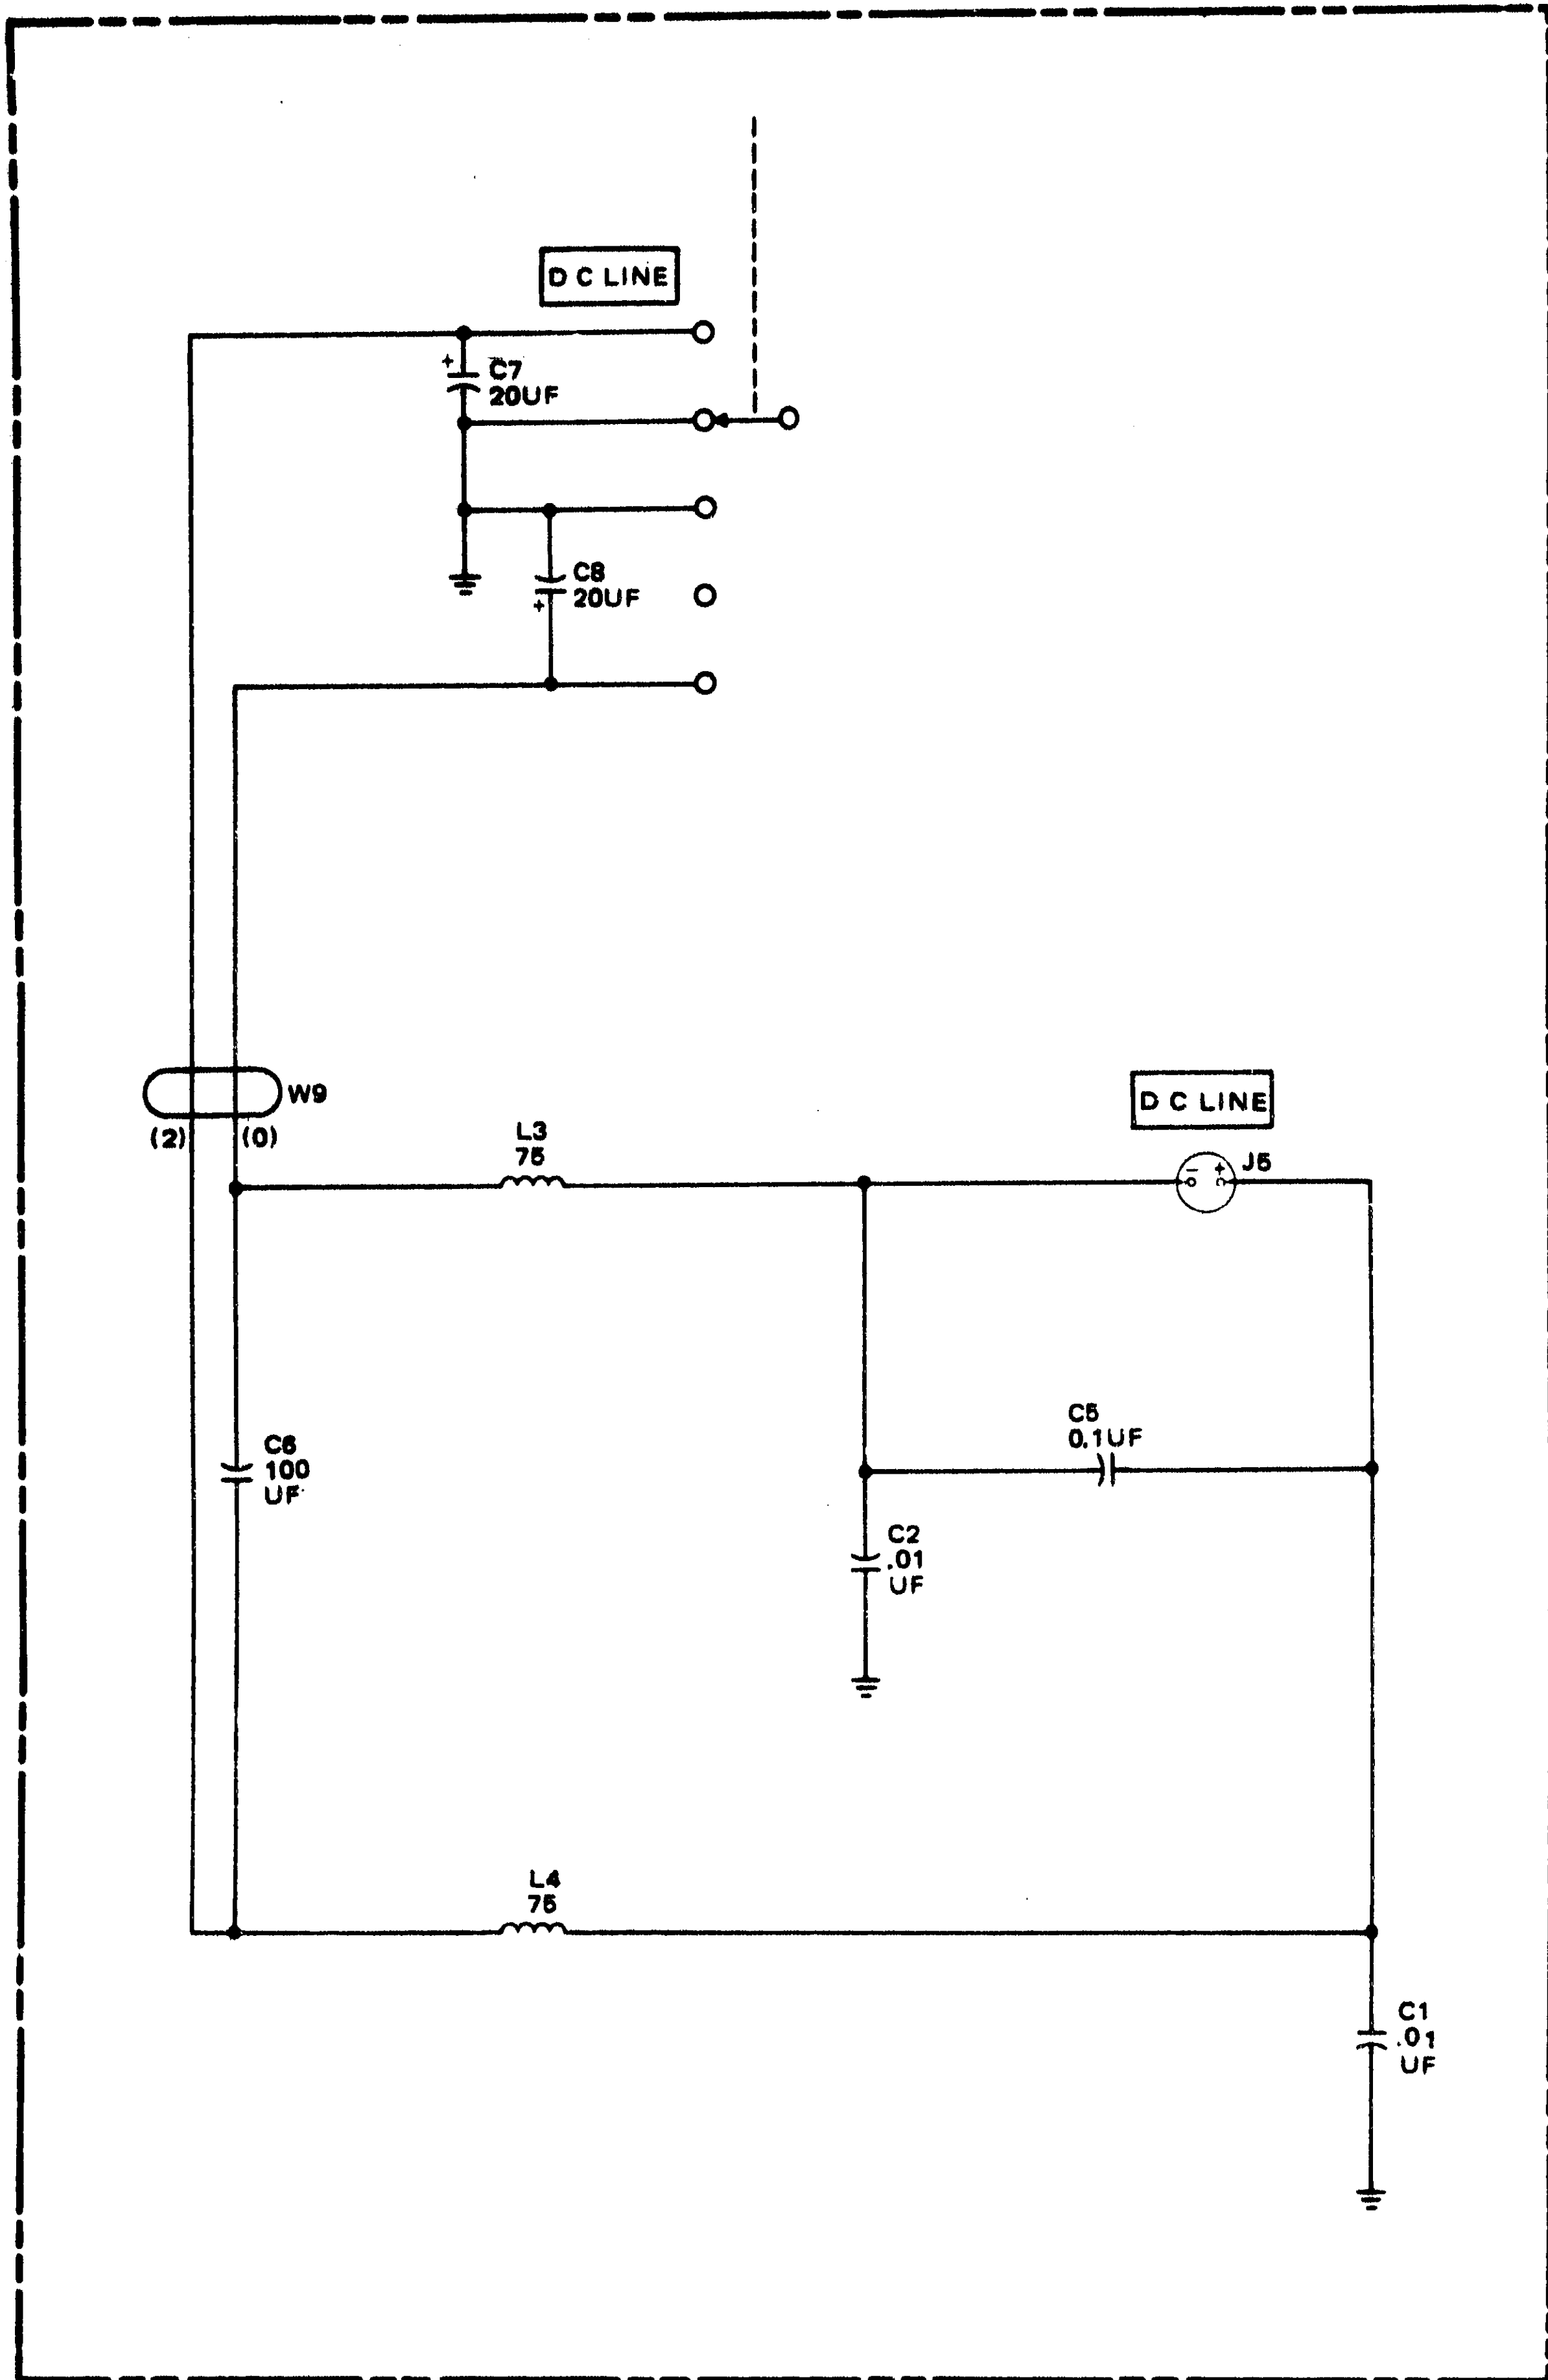

Figure 1. Change to Schematic 16
**Δ Change: DC input circuit per figure 1 of this change